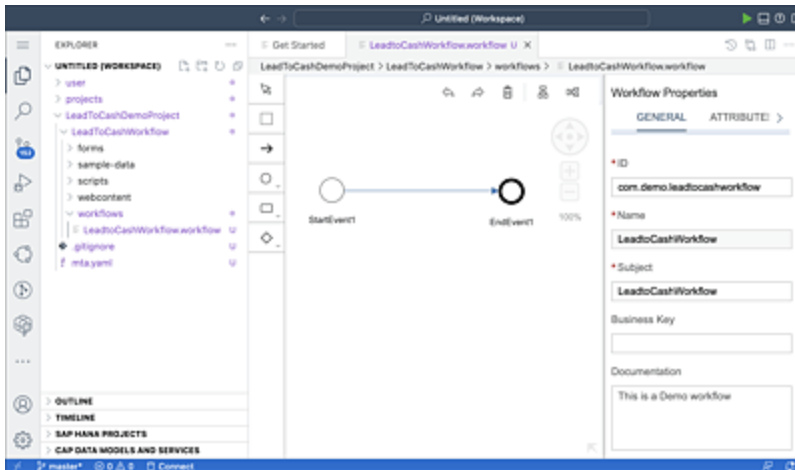

Figure 18.7 Workflow Editor
8. Open the newly created workflow in the Workflow Editor, as shown in Figure 18.7.